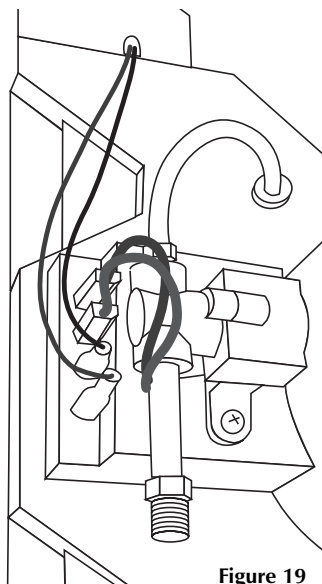

Figure 19
4. Locate the humidifier terminal panel on the side of the humidifier cabinet, behind the bypass tube. Connect the two ends of the transformer lead wires to the humidifier terminals marked "24 VAC IN". (fig 19)